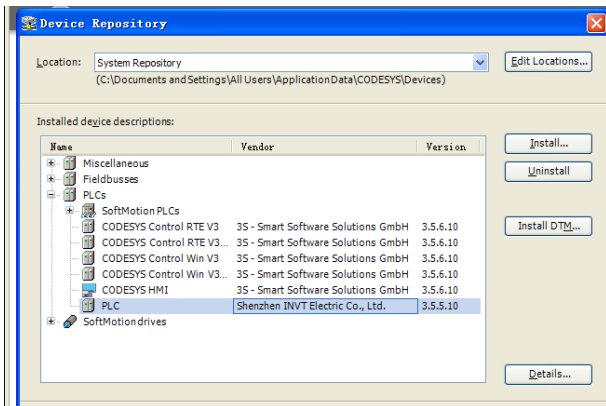

Figure 3-3
3. After the device description file is successfully installed, the programmable extension card for INVT is displayed, as shown in Figure 3-3. The version is V3.5.5.10.